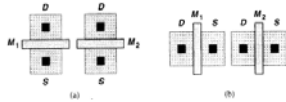

Figure 18.15 Effect of shadowing on (a) gate-aligned and (b) parallel-gate transistors.
- The asymmetry in Fig. 18.15 b) can be improved by adding dummy structures.. (We'll see)